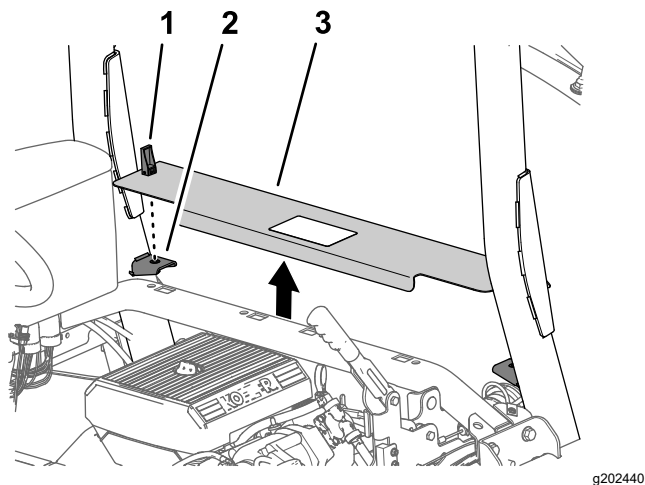

Figure 9
- Rotate up the handles for the latches of the engine-access panel (Figure 9).
- Lift the engine-access panel and remove it from the machine (Figure 9).